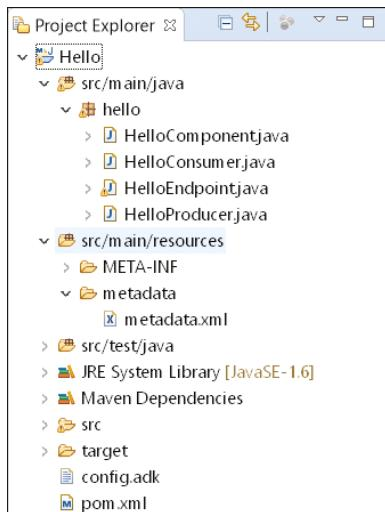

Figure 6.99 New Adapter Project Added to the Project Explorer View
6. Click **Finish**. The project is added to the **Project Explorer** view (Figure 6.99).